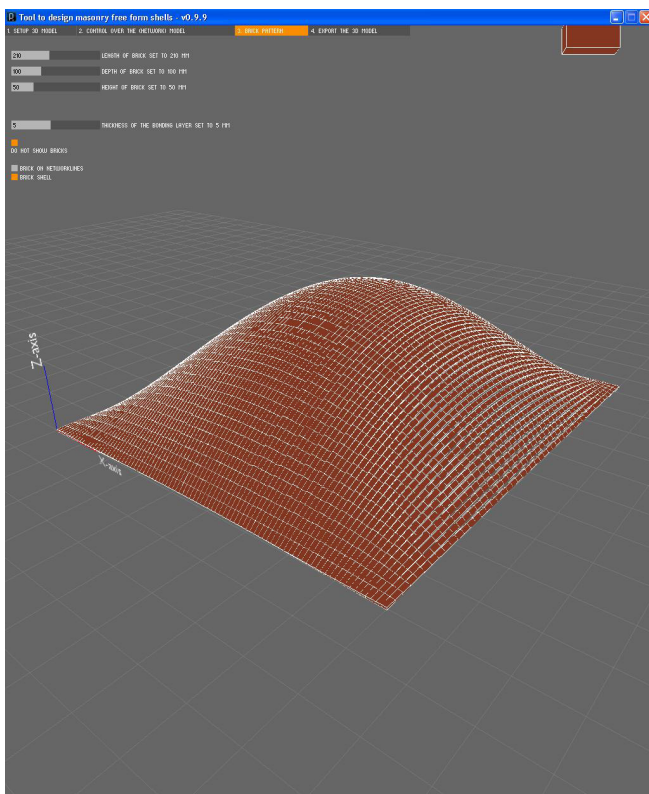

Figure F-11 - Tab 3: Example of a generated brick pattern
2. Create a full shell (Figure F-11).